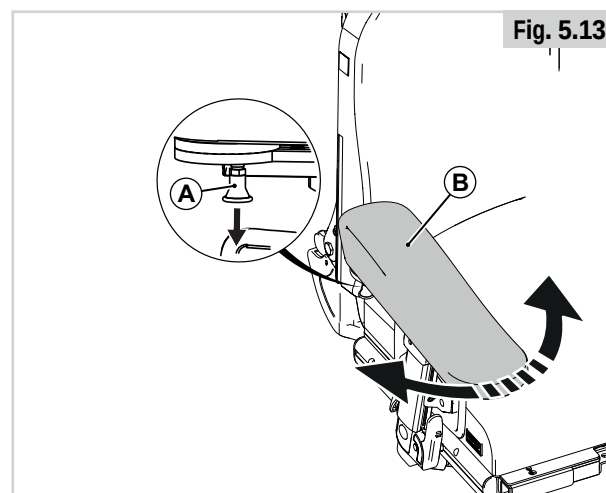

Fig. 5.13
5.8 Hemiplegia armrest (Fig 5.13)